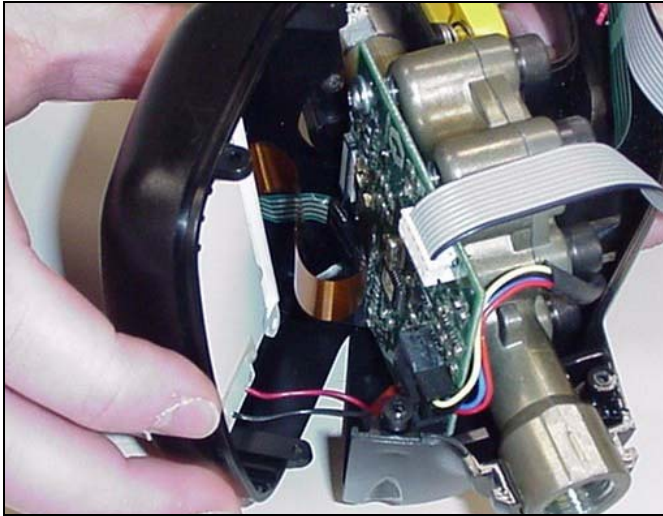

FIG. 26
- Pull the bezel (31) away and up from the right cover half (18). See FIG. 26.